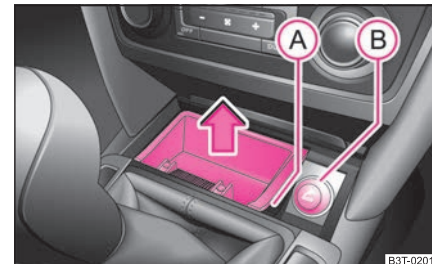

Fig. 88 Centre console: Front ashtray
- Grasp the ashtray insert at the point (A) ⇒ page 85, fig. 88 and take it out in direction of arrow.
- Press the button of the lighter (A) ⇒ fig. 89 or (B) ⇒ page 85, fig. 88.